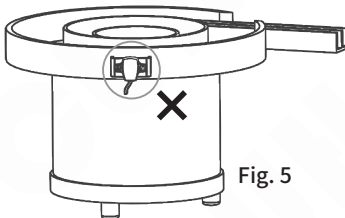

Fig. 5
- Not recommend installation method, As shown in Fig. 5 and Fig. 6.